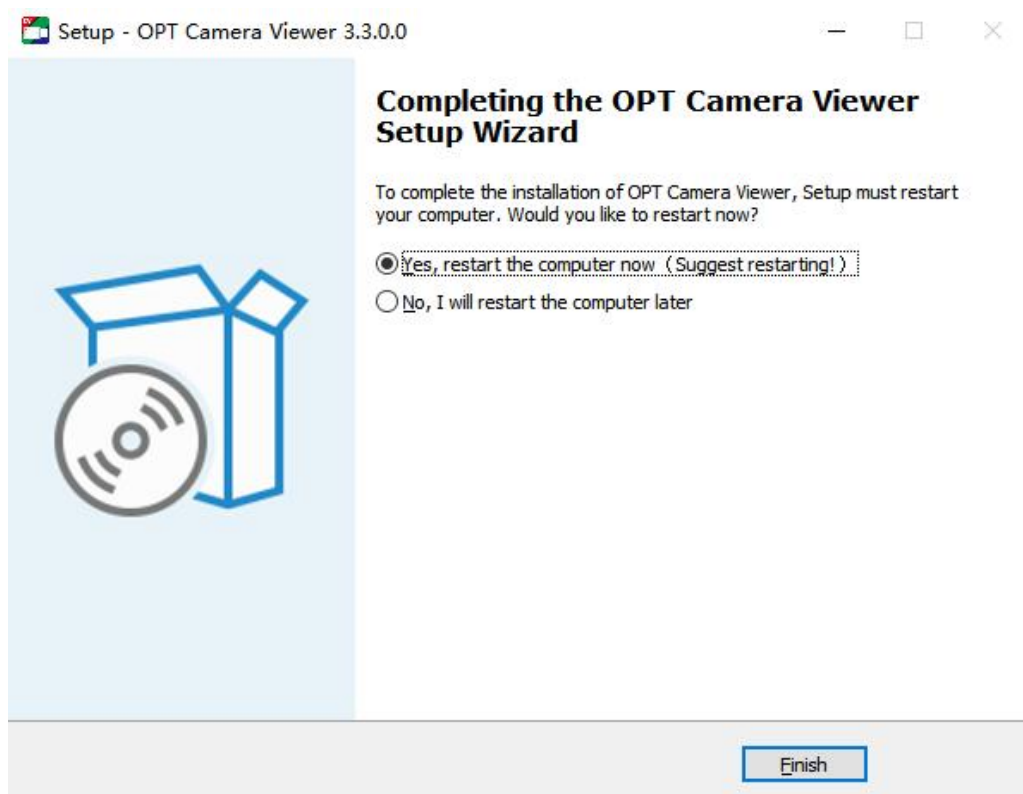

Figure 3-7 Program installation success window
8. After the program is installed, restart the computer, as shown in Figure 3-7.